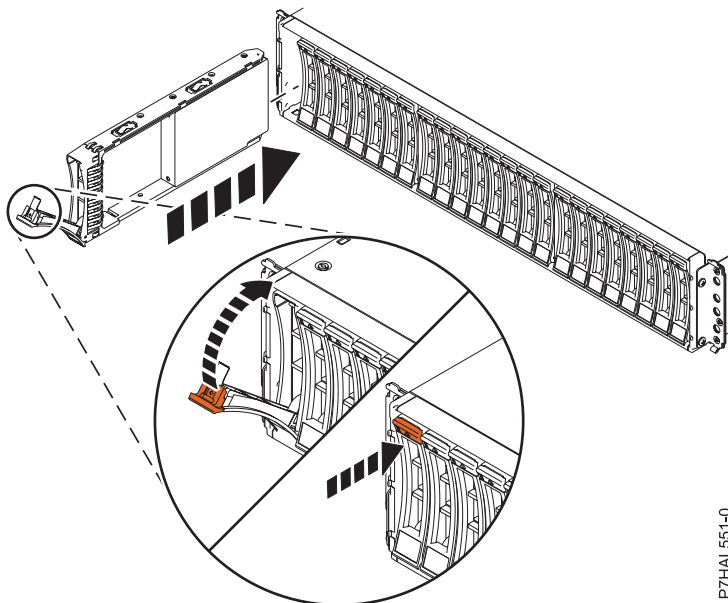

Figure 7. Installing the disk drive in the 58/87 disk drive enclosure
1. With the handle in the unlocked position, see Figure 7, support the bottom of the drive as you align it with the guide rails in the expansion unit.